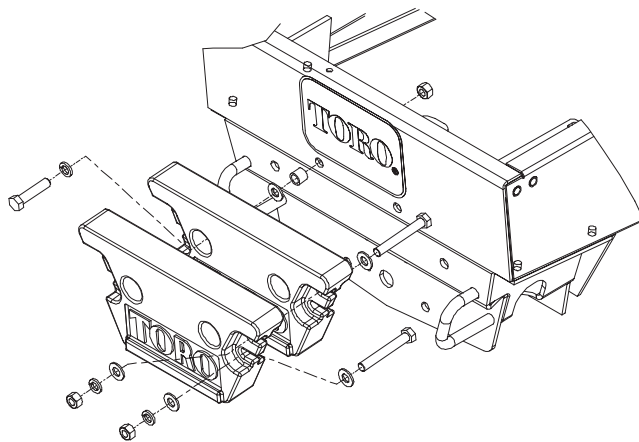

Figure 1
1. Mount a weight to the rear of the traction unit with (2) 1/2-13 x 2-1/4" lg. capscrews, lockwashers and nuts (Fig. 1).
2. Mount the remaining weight to the mounted weight with (2) 1/2-13 x 3-1/2" lg. capscrews, lockwashers, nuts and (4) flatwashers.
1. Mount a weight to the rear of the traction unit with (2) 1/2-13 x 2-3/4" lg. capscrews, lockwashers, flatwashers and spacers (Fig. 1). The flatwasher and spacer are to be positioned between the weight and the chassis with the flatwasher against the weight.